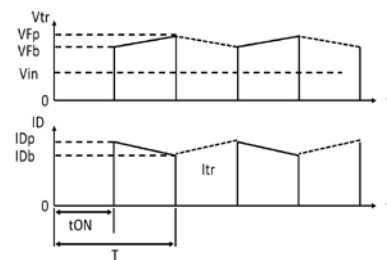

Figure 3.3 Current and voltage waveforms of a voltage boost circuit
The thermal loss of a diode should be considered separately for the forward- and reverse-bias modes. When the MOSFET is off, the SBD is forward-biased by Vin and L. As a result, current (ID) flows through the SBD, causing thermal loss, PF (forward loss). Figure 3.3 shows the VOUT voltage and current waveforms. PF can be calculated as follows from the turn-on time (tON) and the cycle period (T) of the MOSFET. Therefore, SBDs with lower forward voltage (VF) provide higher power efficiency.